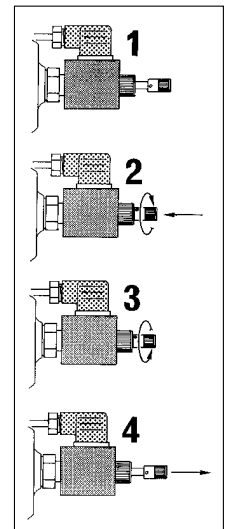

fig. 22a
On the distributor it has been installed an electro-valve with a manual locking function (fig. 22) which allows to reactivate all the crane functions in case of absence of the electric power. Only in these conditions it is permitted to remove the lead seal which protects the device. Push the button and turn it into the clockwise sense (fig. 22a pos. 1-2); the button stays in stable and closed position.
(fig. 22a pos. 3-4)